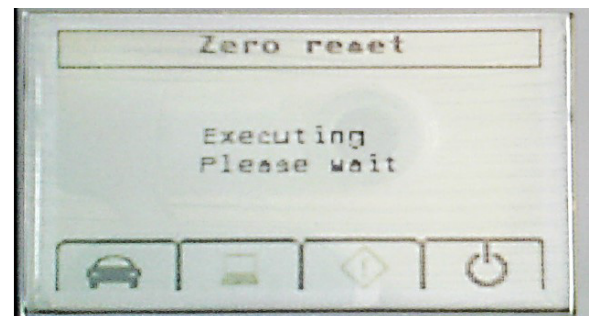

Figure A9
- The screen in Figure A9 will display while zero point reset is being performed.